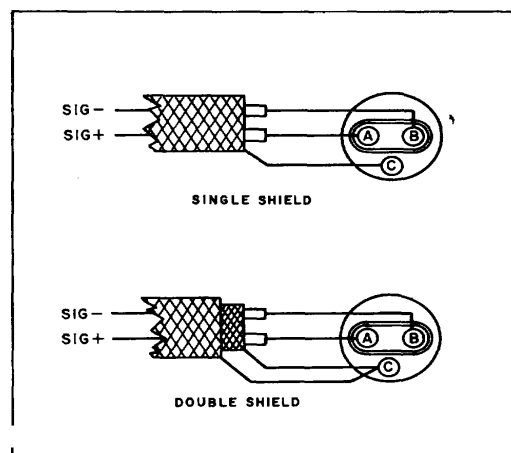

Figure 2-5. Input Connector Wiring, Non-Guarded
- Solder the cable center conductors to connector pins A and B. See Figure 2-5.